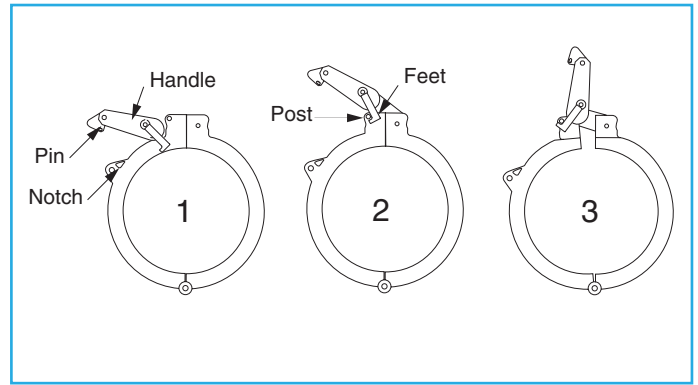

Figure 12.
- 8.1 Push the handle to the side to release the pin from the notch, then lift the handle. See Figure 12, Step 1.
- 8.2 Hook the “feet” of the handle behind the two posts and pry open one half of the clamp. See Figure 12, Steps 2 and 3.